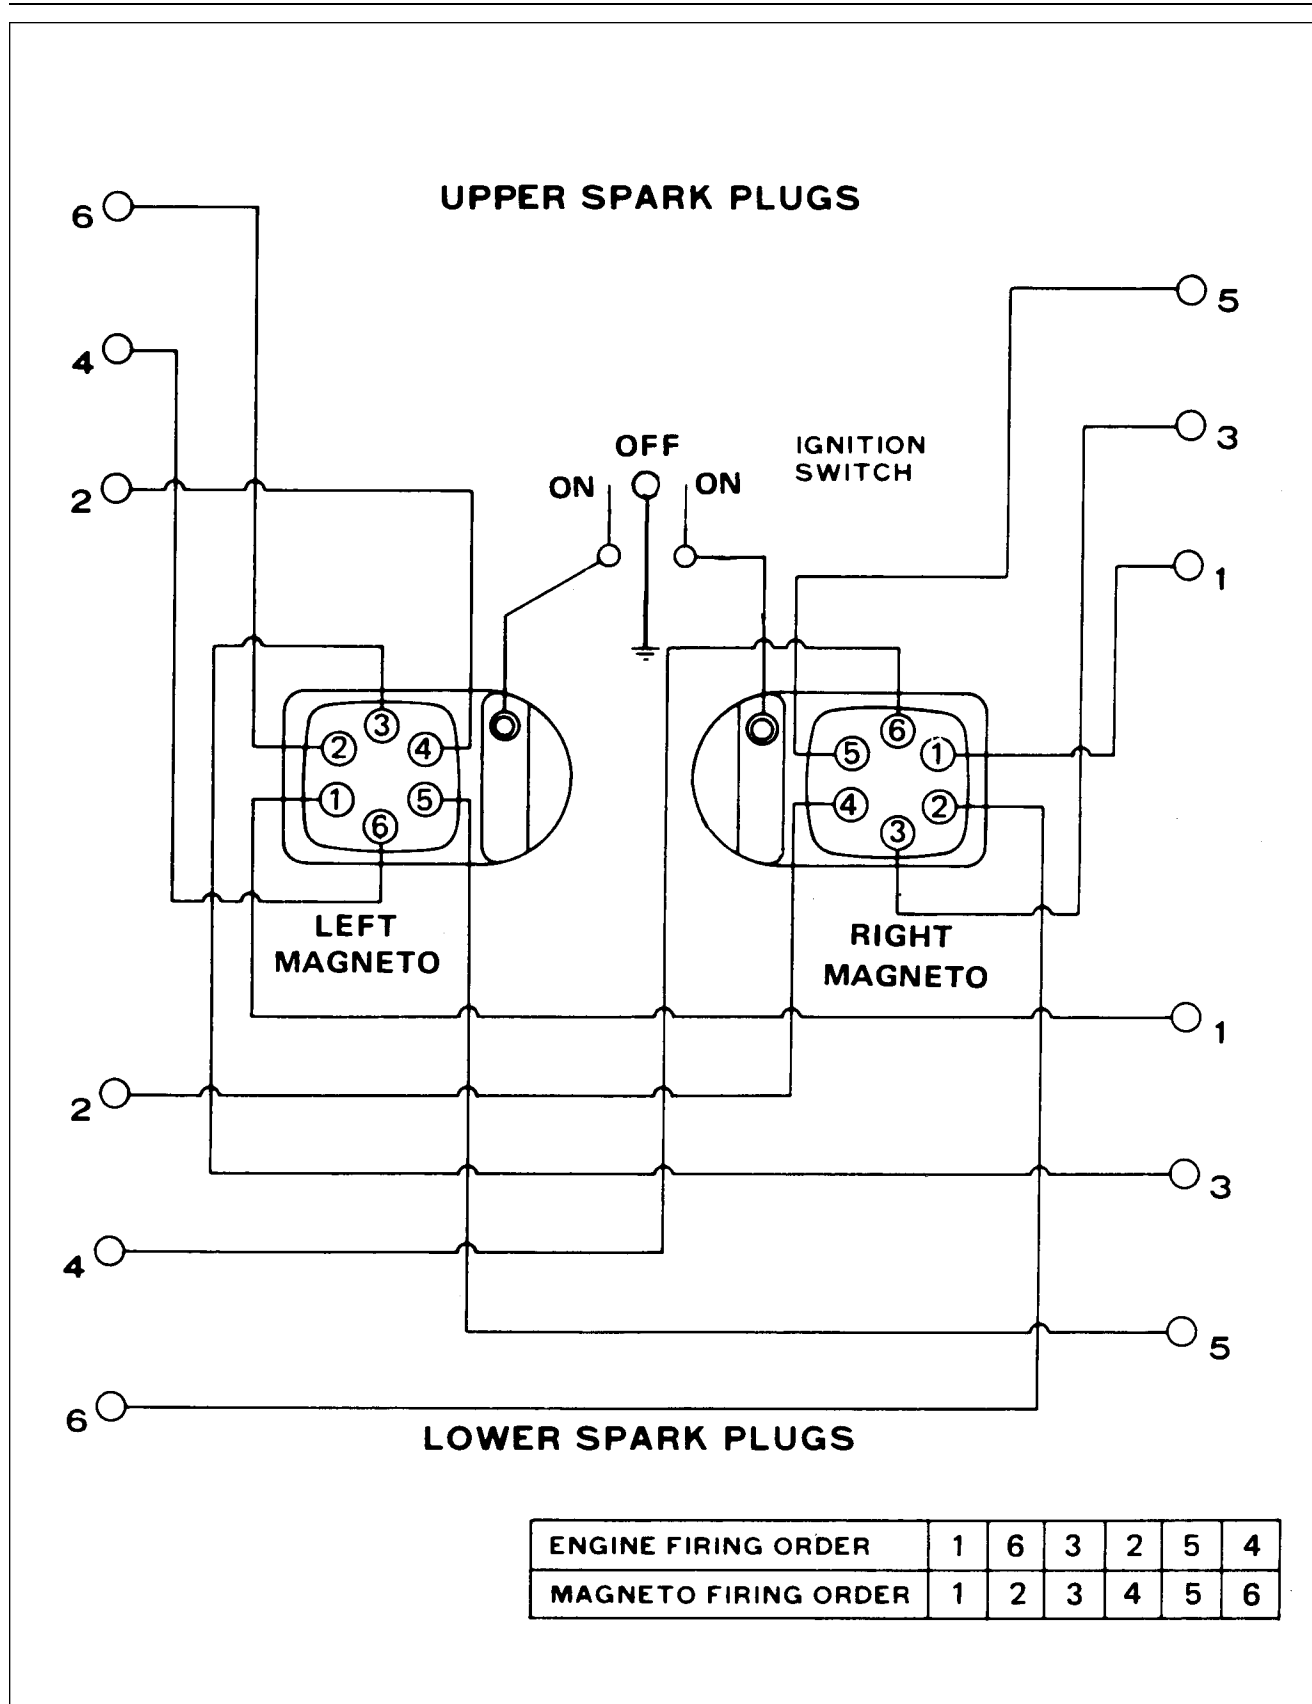

Figure 8-28. Ignition Schematic
- b. Route the ignition wires to their respective cylinders as shown in Figure 8-28.